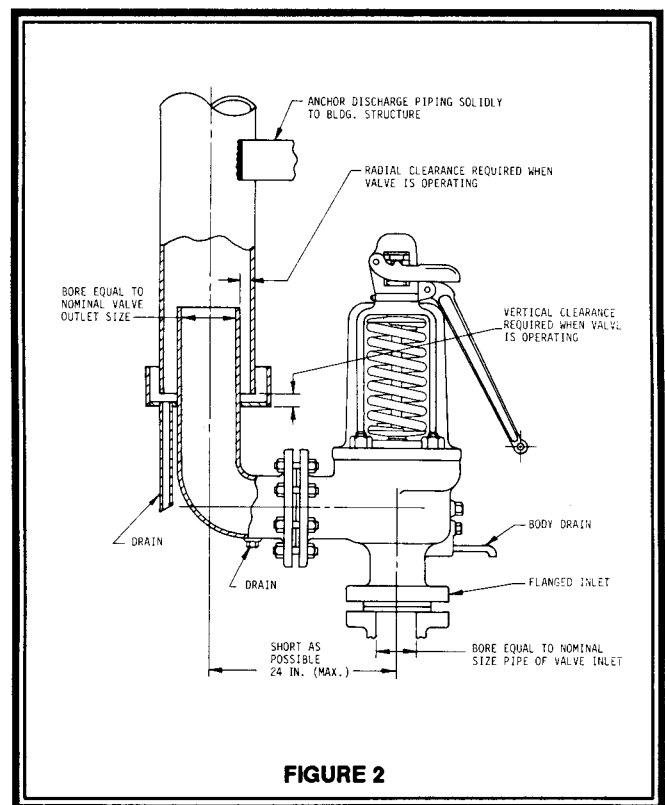

FIGURE 2
1. The valve should be installed to meet all the requirements of Figure 2.